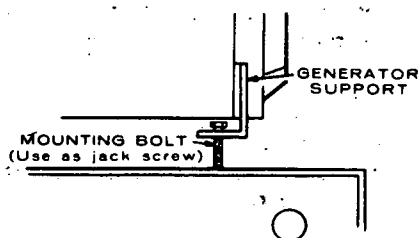

FIGURE 8
3. After determining the proper clearance for each side of the skid base, turn jackscrews in the threaded holes to allow a clearance for placing the shims between skid base and generator support (Figure 8). Lower generator (using jackscrews) and allow to rest on shims. Recheck the total generator clearance, base to support; it must equal the base to support clearance plus the 0.010-inches (0.254 mm).